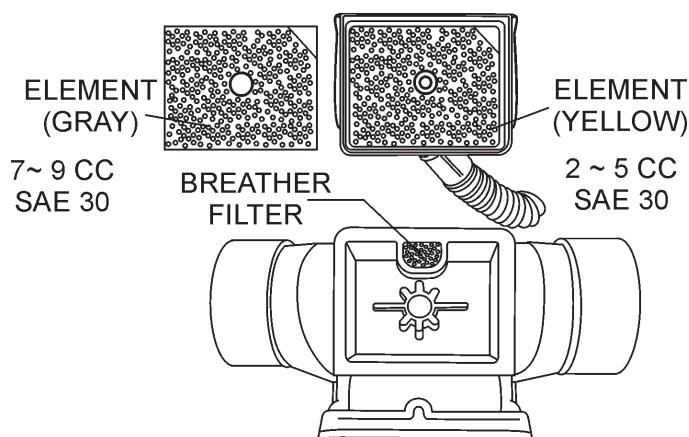

Figure 16. Primary Air Filter
- Remove the element from the pre-cleaner (Figure 16) at the top of the crankcase (body side) and clean it with cleaning oil (kerosene).